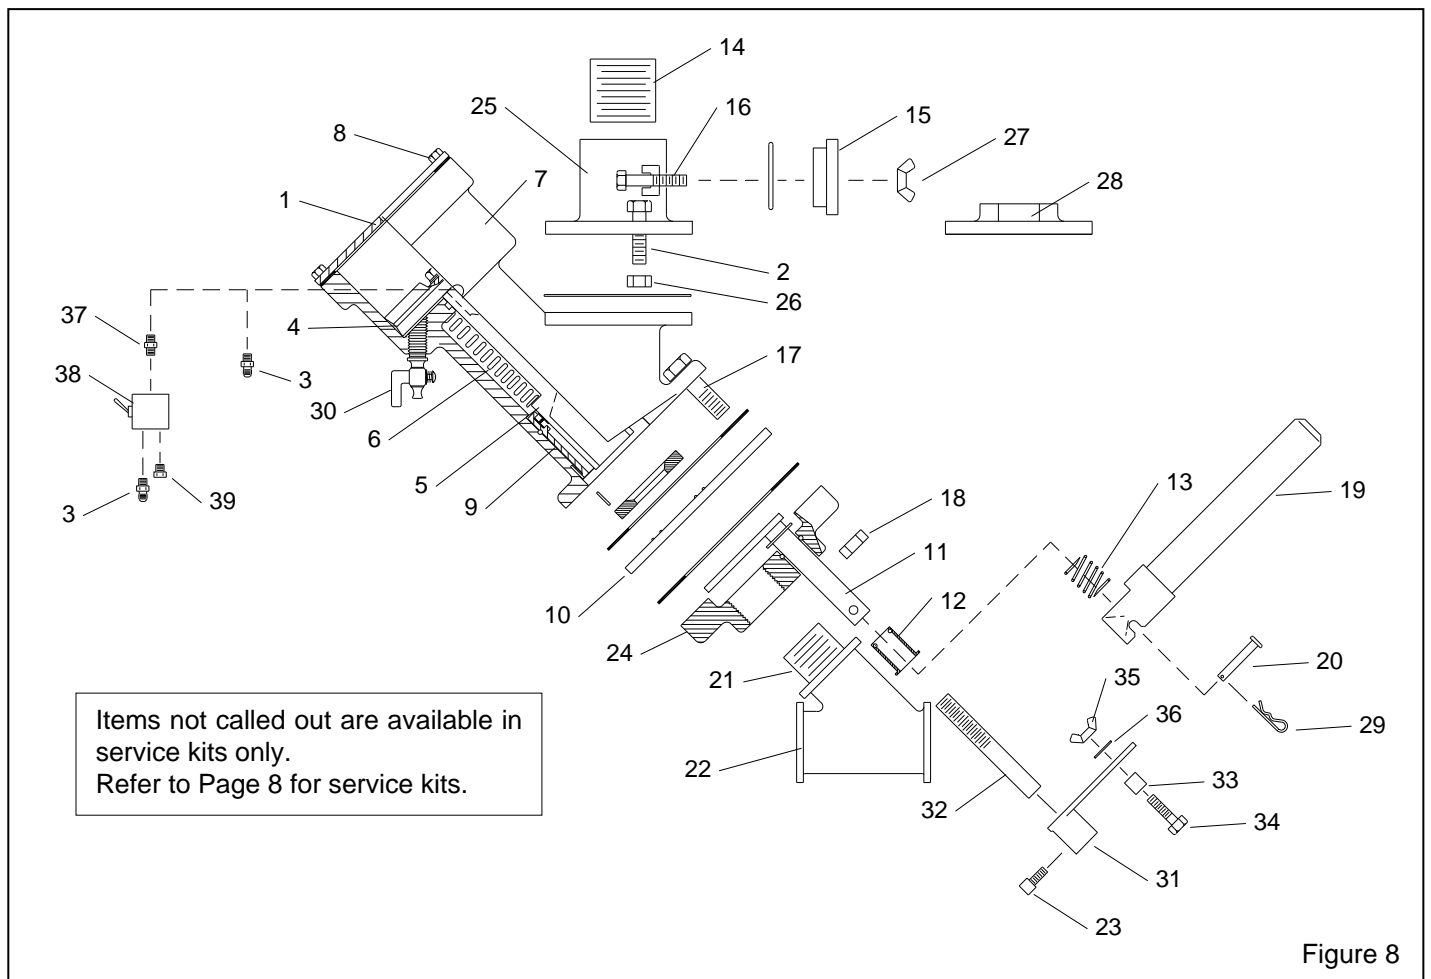

Figure 8
6.5 Sentinel Replacement Parts, Figure 8